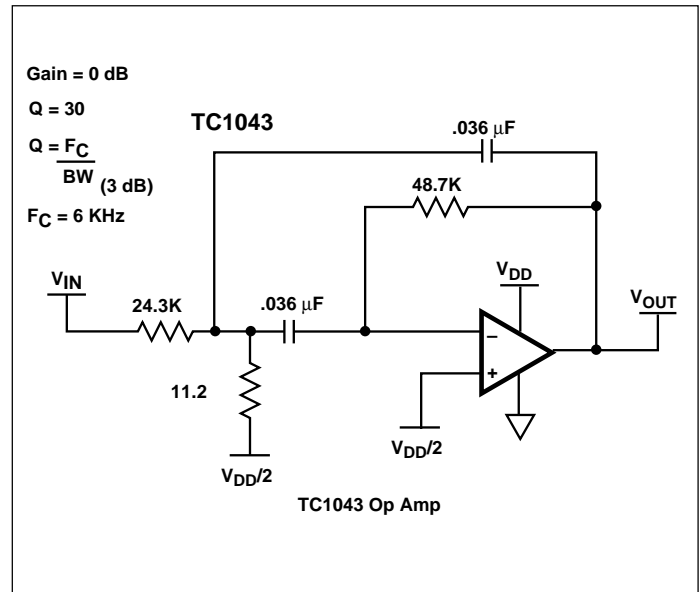

Figure 10. Second Order SAT Bandpass Filter
Figure 10 shows a high Q (30) second order SAT detection bandpass filter using TelCom's CMOS op amp architecture. This circuit nulls all frequencies except the three SAT tones of interest.